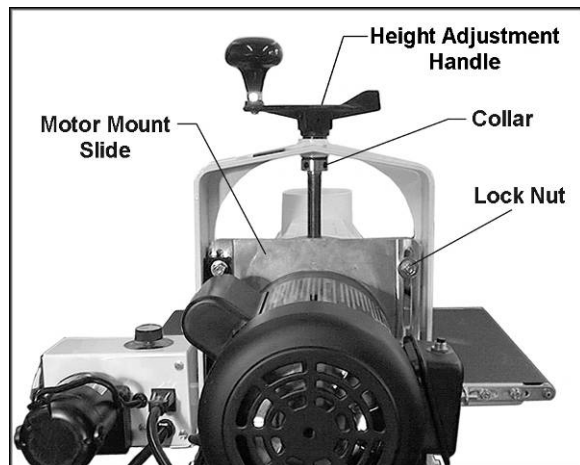

Figure 28
1. With a 1/8" wrench, adjust all four studs by tightening the lock nuts (Figure 28), then loosening them 1/8 to 1/4 turn. If the lock nuts are set too tight, height control will not operate easily. If the lock nuts are too loose, excessive deflection of the outboard end of the drum carriage will result.
3. Push height adjustment handle (Figure 28) downward to set firmly on housing.
4. Loosen set screws on collar (Figure 28).